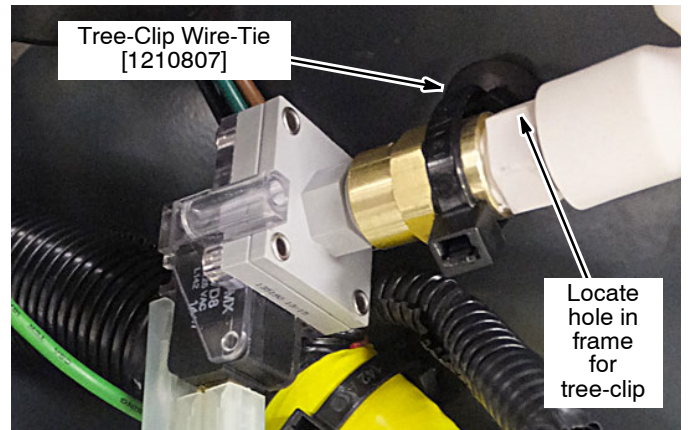

Fig. 33
17. Using the tree-clip wire-tie, secure the pressure switch to machine frame as shown (Figure 33).